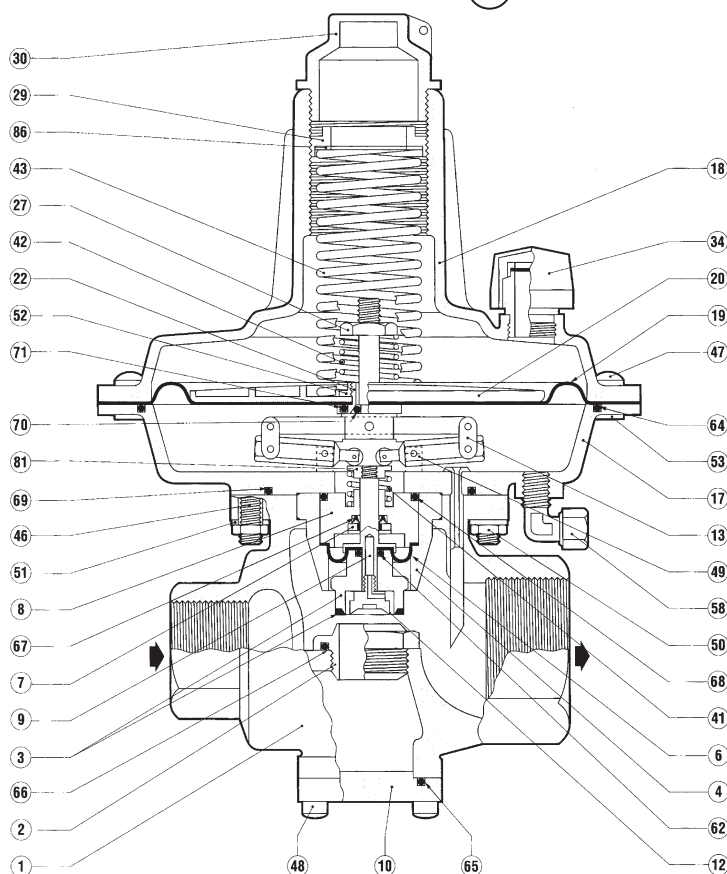

Fig. 20 Dival 50-75-100-125
7.2.2 DIVAL 50-75-100-125 REGULATOR (fig. 20)